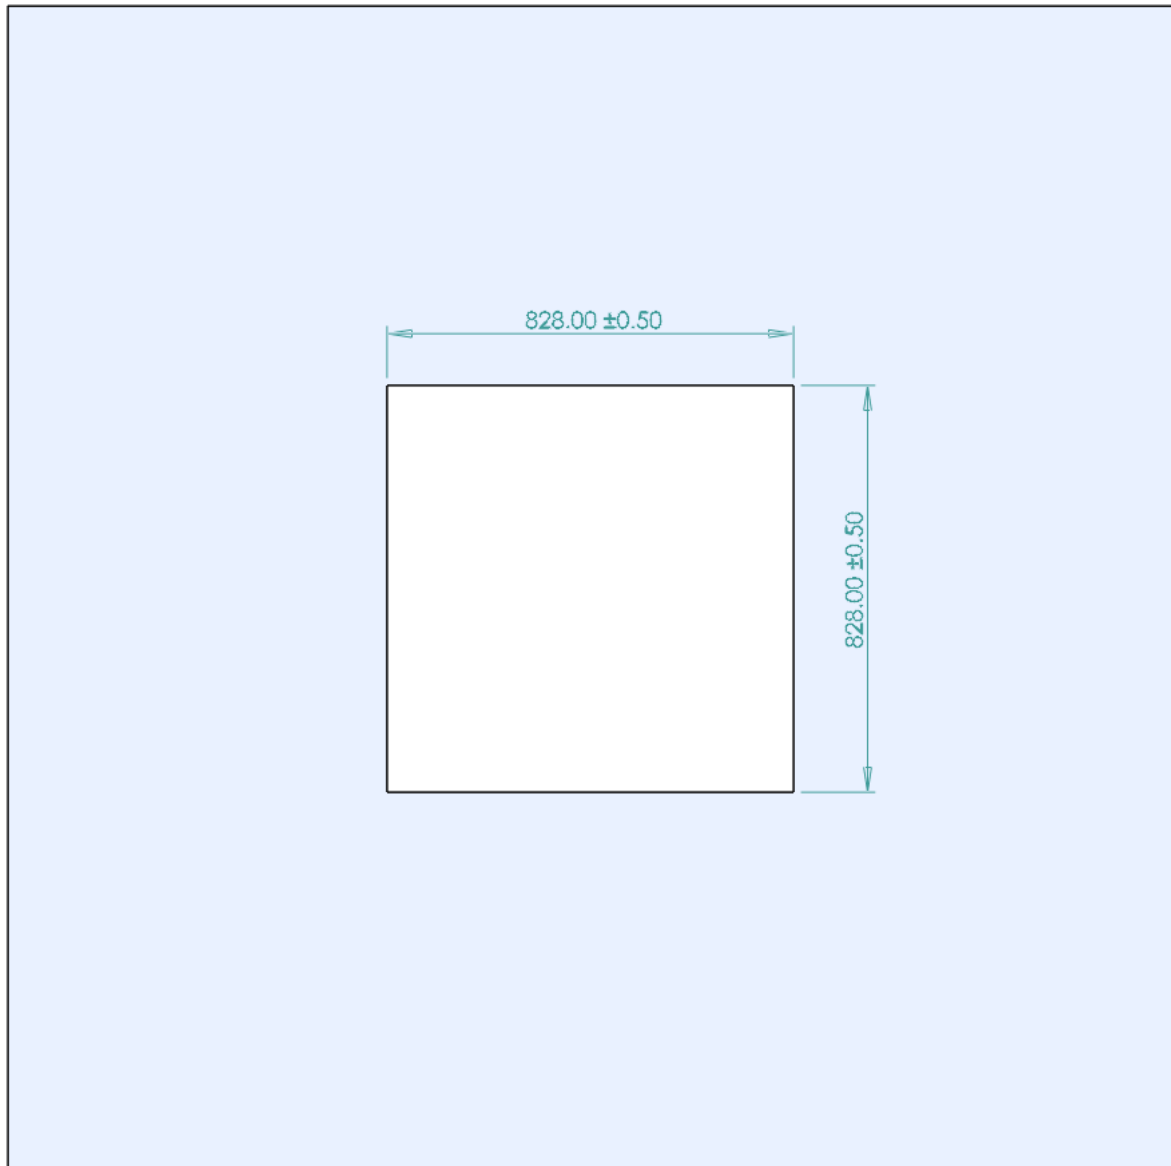

Figure 32 – Dimensions of roof opening.
1. Create roof opening of minimum 828mm x 828mm *on the horizontal* - see figure 32.